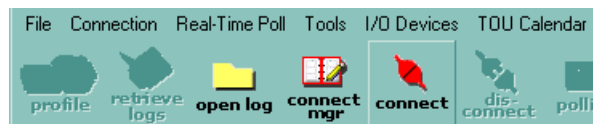

FIGURE 5-7: Connect Button
- Avoid both "Star" and "Tee" connections (see Figure 5.7).